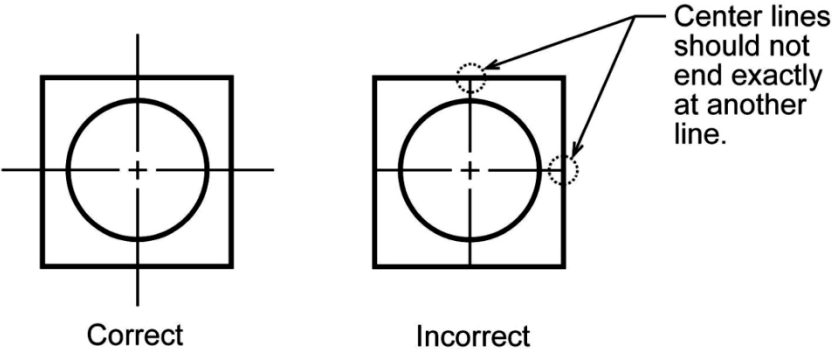

Figure 2.5-7: Terminating center lines.
- Rule 3. Center lines should extend a short distance beyond the object or feature. They should not terminate at other lines of the drawing (see Figure 2.5-7).